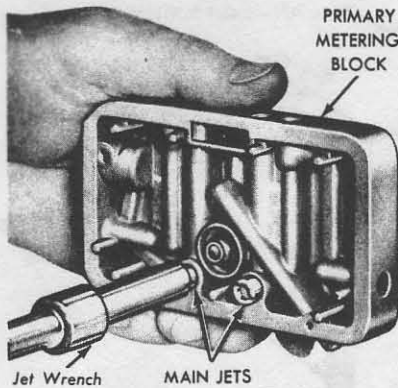

Fig. 3.55 Removing the main jets (Holley 4150C carburetor) (Sec. 23)
- 3 Unscrew and remove the main jets (Fig. 3.55).